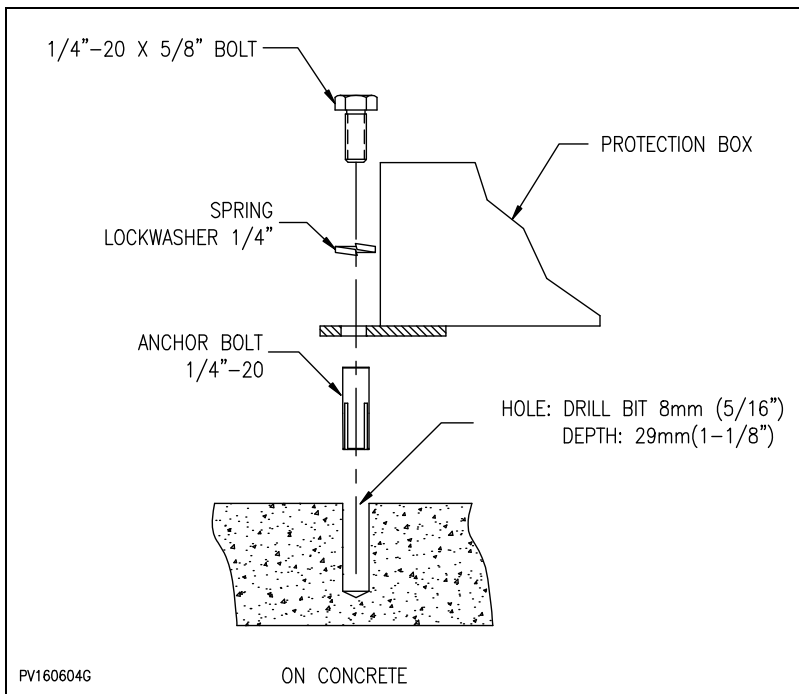

Figure 19 : Fastening the protection box on concrete
2. Fasten the metal protection box as shown (refer to *Figure 19* : "Fastening the protection box on concrete").